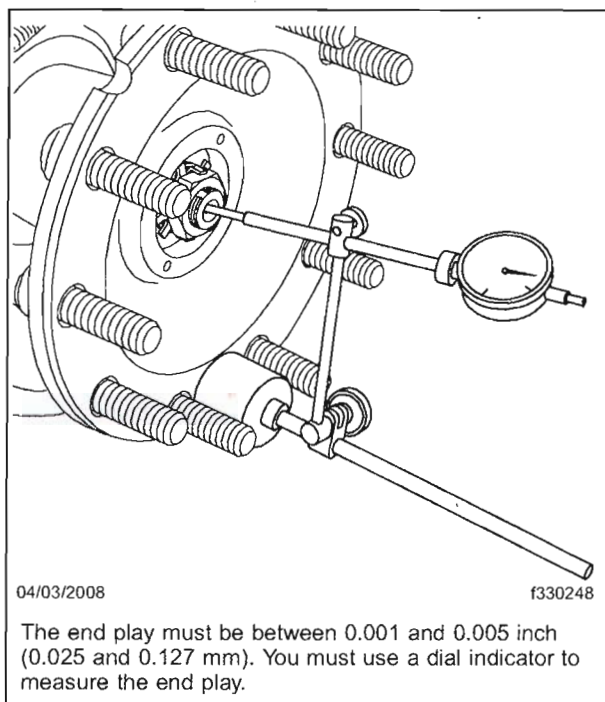

Fig. 7, Using the Dial Indicator
3. *Attach a dial indicator to the hub*, and set the point of the indicator in line with the end of the axle spindle. The point of the indicator should be parallel to the spindle axis. See **Fig. 7**.